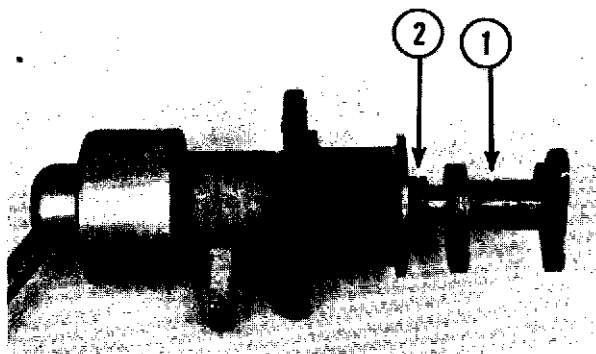

Fig. 11-15
- A. Drive the rollpin out of the cam assembly (1, Fig. 11-15).
- B. Drive the rollpin out of the hub and cam assembly (2, Fig. 11-15).